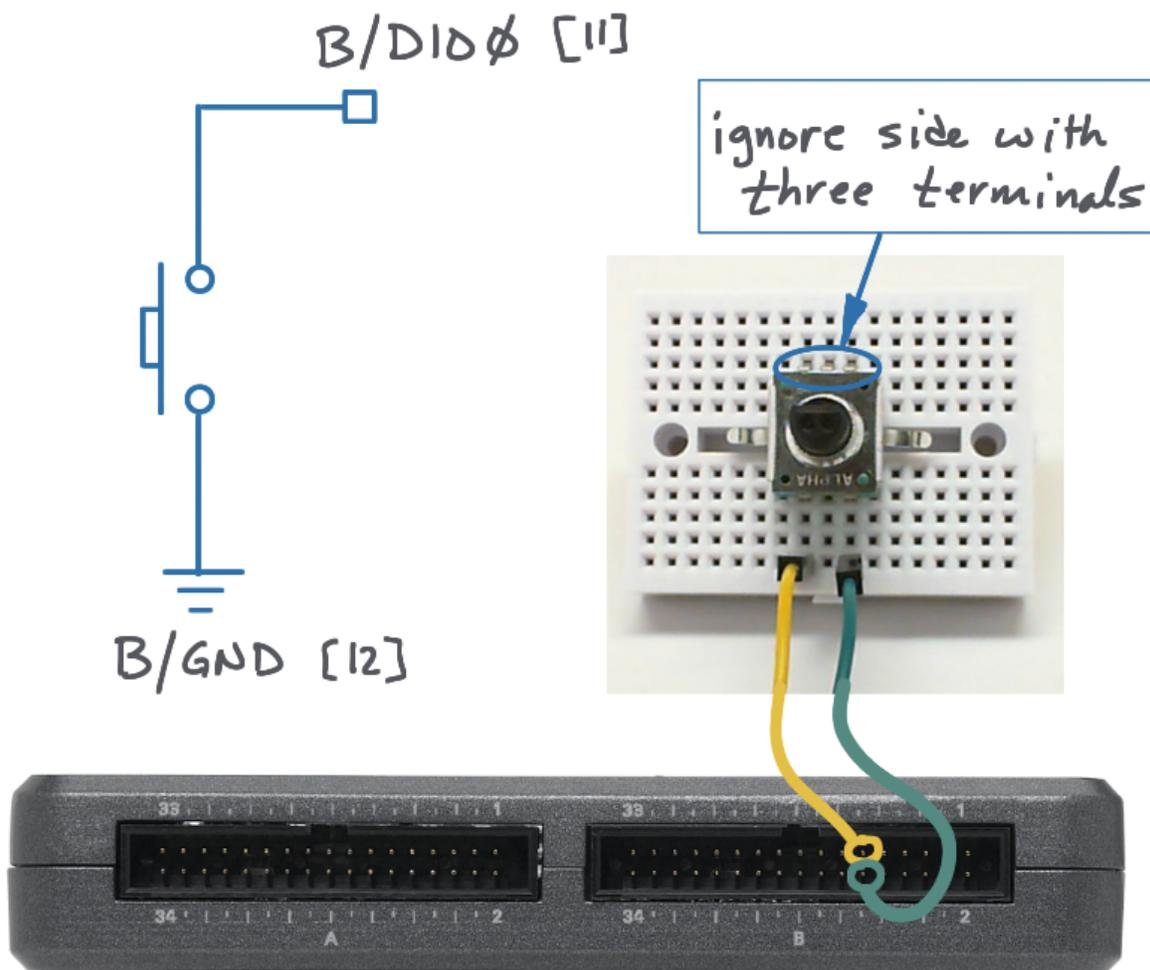

Figure 4.2: Demonstration circuit for pushbutton switch: schematic diagram, recommended breadboard layout, and connection to NI myRIO MXP Connector B.
**Build the interface circuit:** Refer to the schematic diagram and recommended breadboard layout shown in Figure 4.2 on page 19. The pushbutton switch interface circuit requires two connections to NI myRIO MXP Connector B: